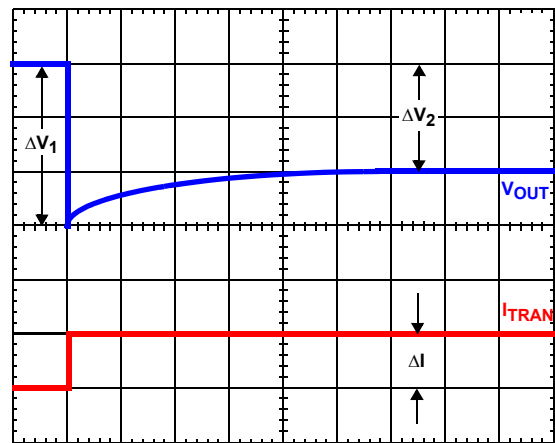

FIGURE 19. TIME CONSTANT MISMATCH BEHAVIOR
Due to errors in the inductance or DCR it may be necessary to adjust the value of R_1 and R_2 to match the time constants correctly. The effects of time constant mismatch can be seen in the form of droop overshoot or undershoot during the initial load transient spike, as shown in Figure 19. Follow the steps below to ensure the R-C and inductor L/DCR time constants are matched accurately.
2. Record $\Delta V1$ and $\Delta V2$ as shown in Figure 19.